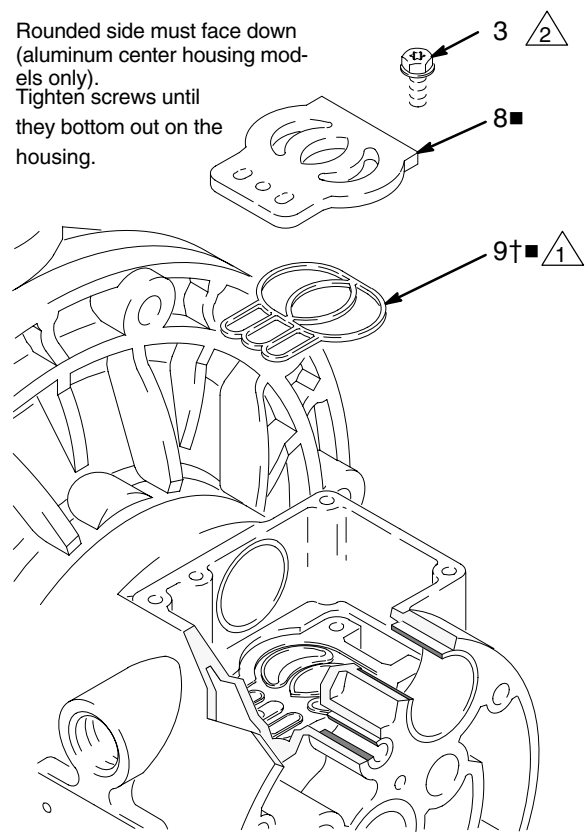

Fig. 9
5. Inspect the valve plate (8■) in place. If damaged, use a Torx (T20) screwdriver or 7 mm (9/32 in.) socket wrench to remove the three screws (3). Remove the valve plate (8■) and, on aluminum center housing models only, remove the seal (9). See Fig. 9.
2. On aluminum center housing models, install the valve plate seal (9) into the groove at the bottom of the valve cavity. The rounded side of the seal **must face down** into the groove. See Fig. 9.
3. Install the valve plate (8) in the cavity. On aluminum center housing models, the plate is reversible, so either side can face up. Install the three screws (3), using a Torx (T20) screwdriver or 7 mm (9/32 in.) socket wrench. Tighten until the screws bottom out on the housing. See Fig. 9.